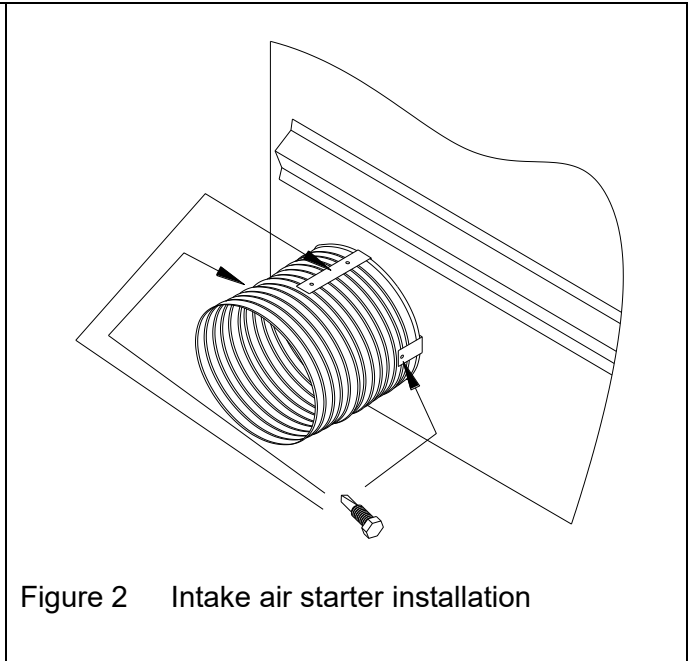

Figure 2 Intake air starter installation
6. Insert the intake air starter through the fireplace casing all the way to the bead. Use three of the self-tapping screws provided to attach the intake air starter (including the starter extension if pertinent) to the three tabs with prepunched holes (see Figure 2). You can use either hole on the top tab.